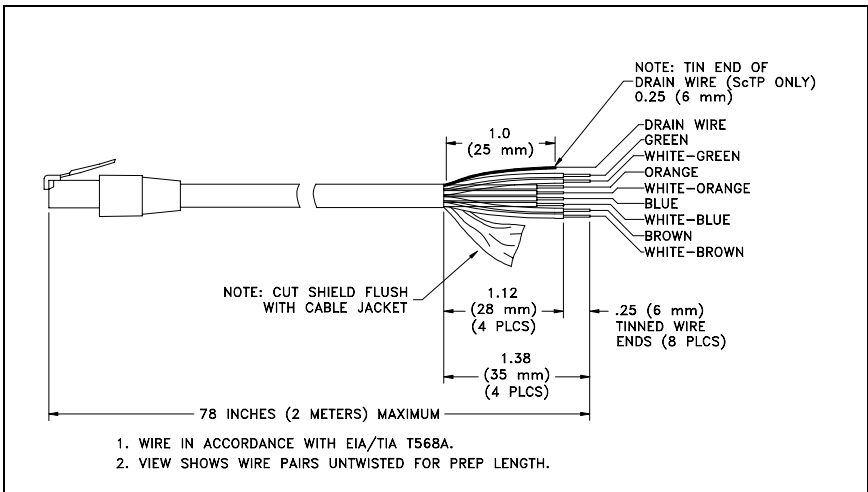

Figure D-2. Cable Preparation Per EIA/TIA T568A
3. Arrange the cable and wire pairs as shown in Figure D-2. Do not untwist the pairs any more than required to strip the wire ends.